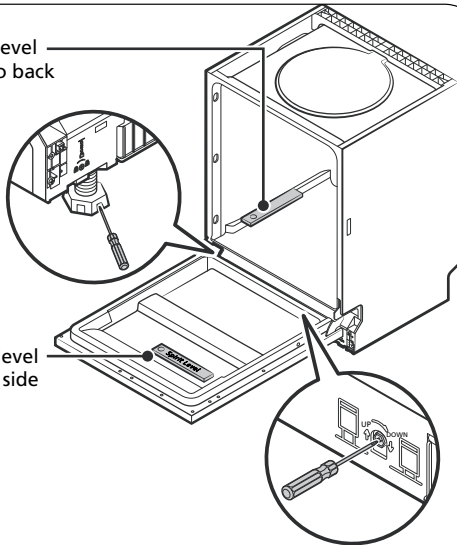

FIGURE 2
8. Adjust the tension of the door springs using a screwdriver, turning it clockwise to tighten both left and right door springs. Neglecting this step may result in damage to the dishwasher (refer to Figure 2).
- Rotate the adjusting screw to tighten or loosen the door steel cable (refer to Figure 2).